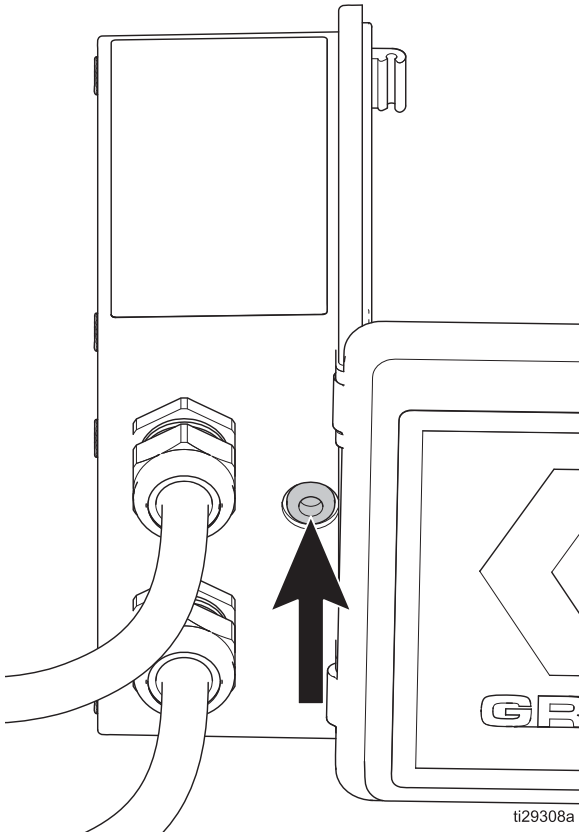

FIG. 15 Pierce the auxiliary input bushing
1. Pierce the auxiliary input bushing on the controller box with a small pointed object. See FIG. 15.